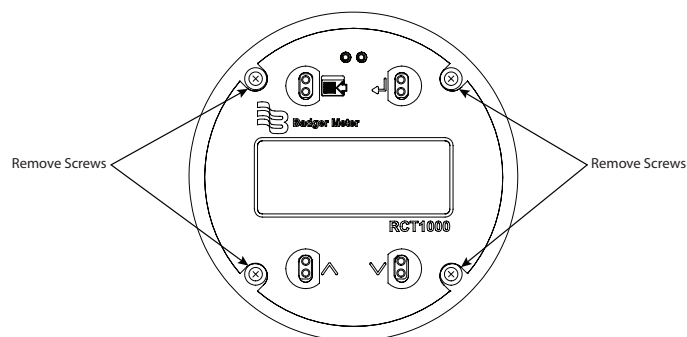

Figure 28: Phillips head screws
3. Use a Phillips head screwdriver to remove the 4 screws holding the display board to the standoffs. See *Figure 28*.